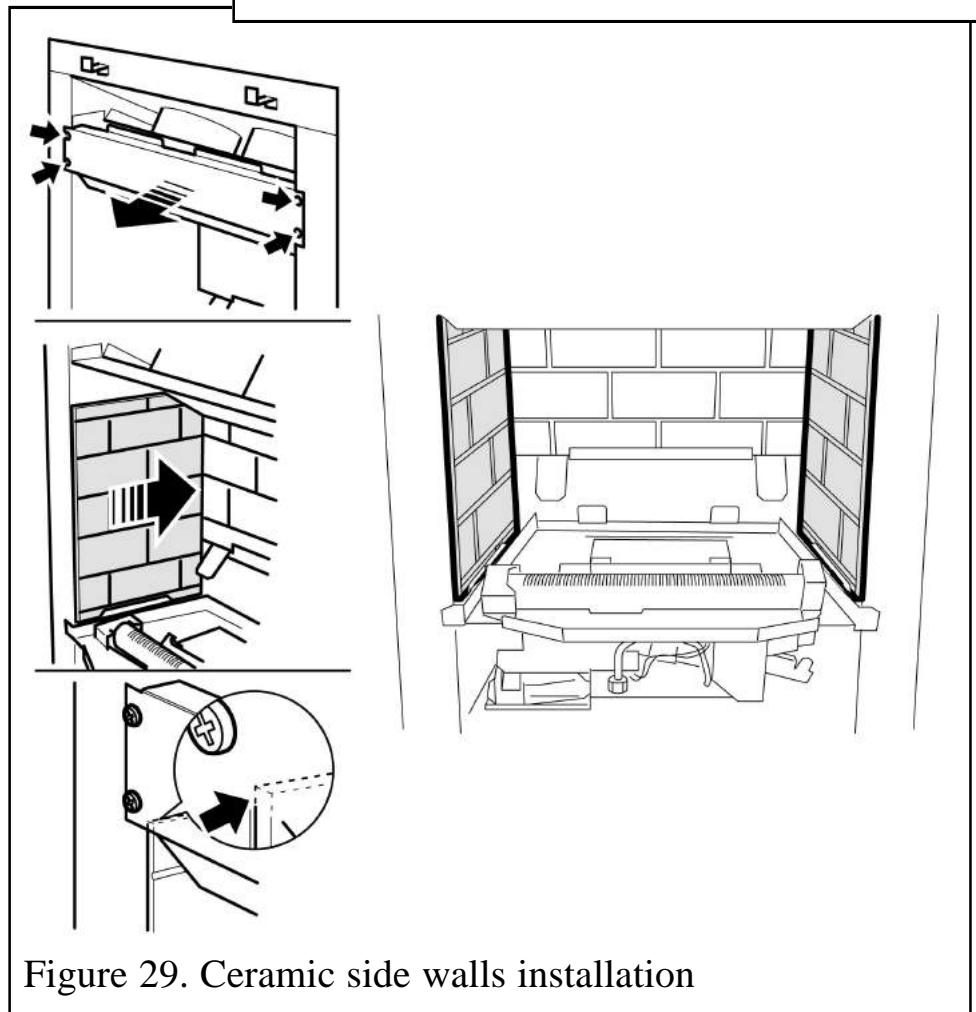

Figure 29. Ceramic side walls installation
2. Remove four screws from the spillage plate sides (See figure 29).
4. Fit the ceramic side walls against the side faces of the burner compartment. The bottom edges of the walls should rest in the ledges at the sides of the firebox. Slide them in from the front and ensure that they touch the rear wall. The friction between the side walls and the rear wall should hold the side walls in position (See figure 29)